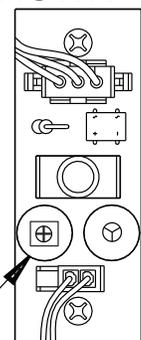

Figure 1
5. Place spacer on closer shaft, then slide arm onto closer shaft and secure with arm shaft screw. (See Fig. 1 on page 3)